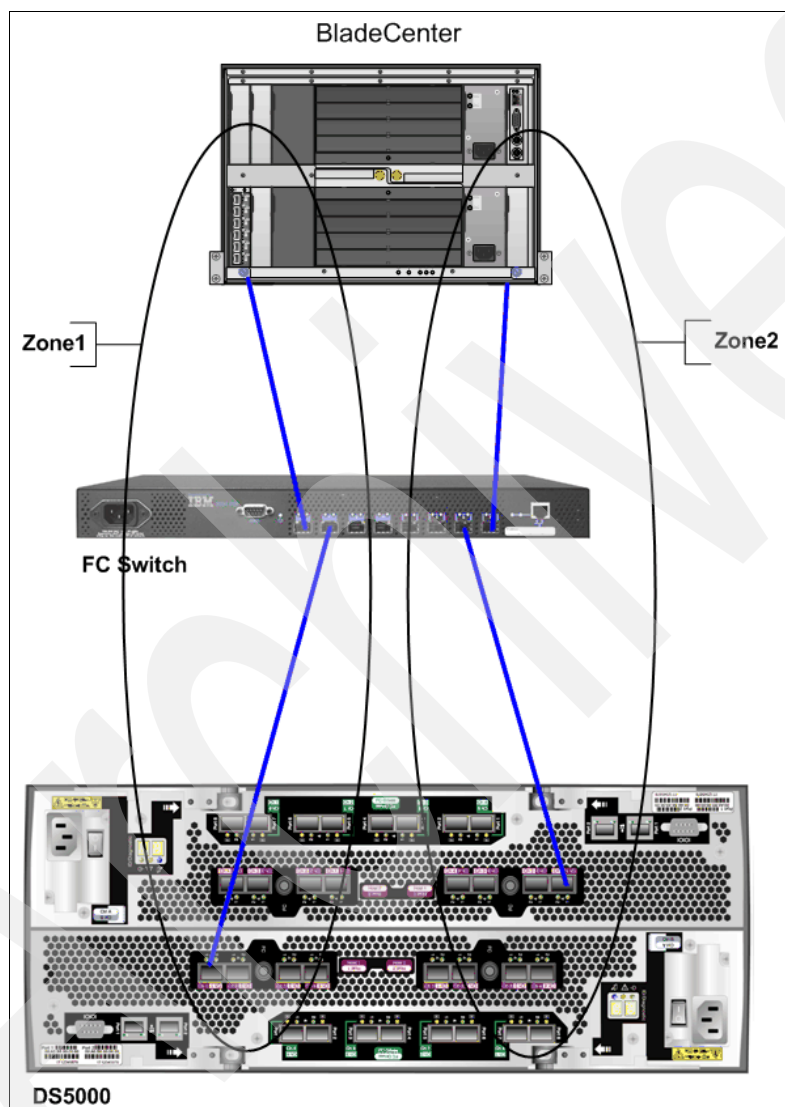

Figure 5-34 Zone up the secondary path
1. Plug the second fiber cable (previously unplugged), back into the controller B (Figure 5-34).